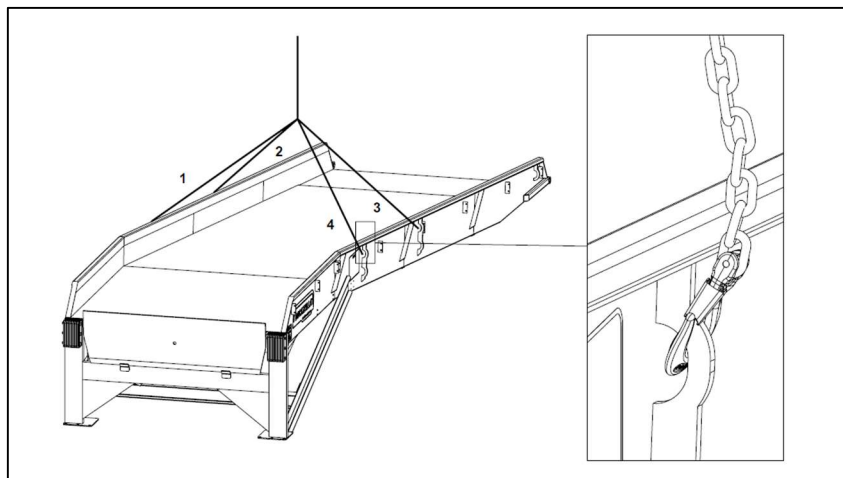

Figure 2a: Offloading with a Crane
- a. **CRANE (PREFERRED):** Attach chains on the four lift points located on the sides of the loading dock (Figure 2a). Slowly lift the loading dock from the trailer, move it to the desired location, and carefully place it on the ground.